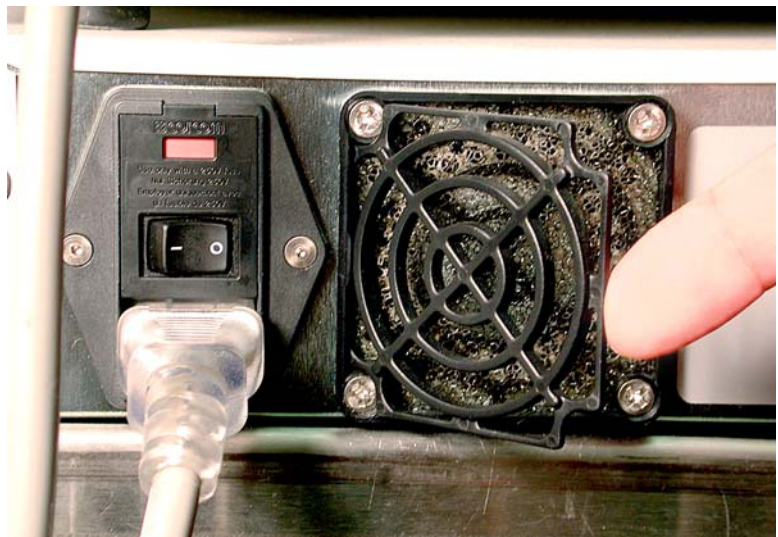

Figure 6-3 Removing the Screen
2. On the back of the Luminex XYP instrument, to the left side, gently remove the screen from the Luminex XYP instrument filter. **Note:** Do not remove the screws. See Figure 6-3.